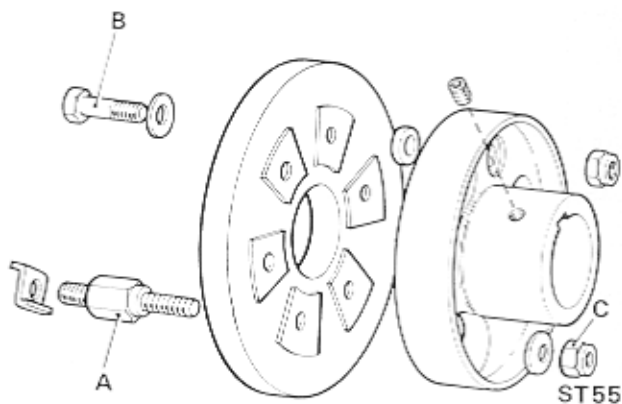

Fig. 84. Flexible Half Coupling—ST1
**FLEXIBLE HALF COUPLING—ST1 (Fig. 84)**